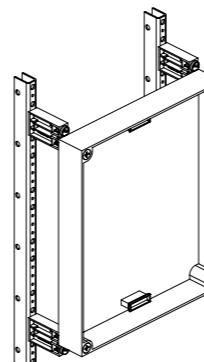

Fig. 1: Electric shock protection used as a pan
- as a pan (Fig. 1) 40 mm top edge system support rail 55 mm